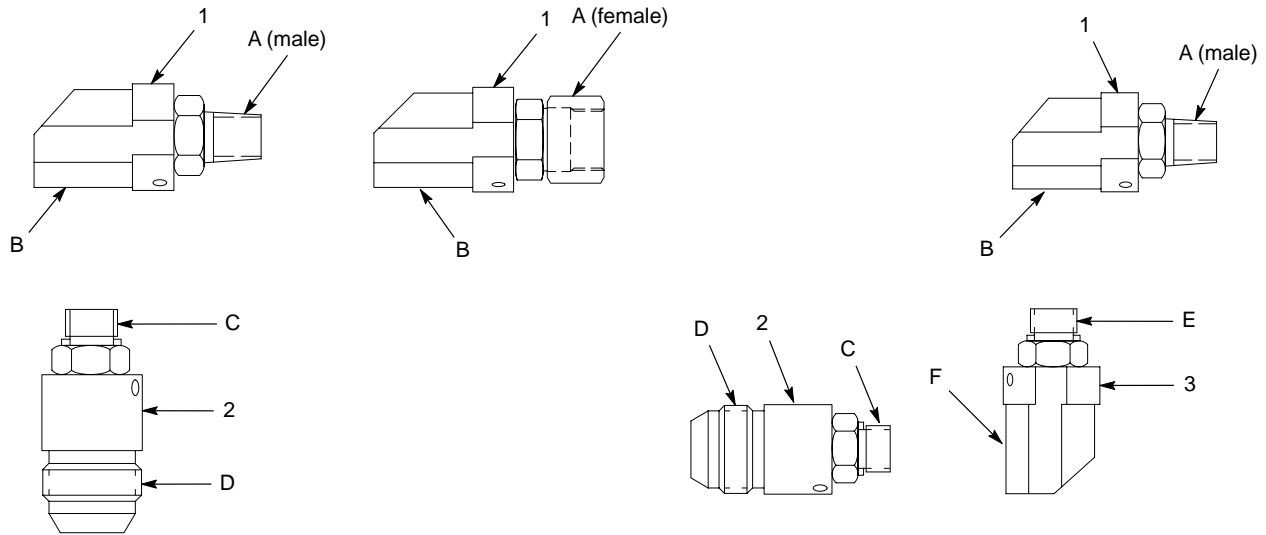

Figure 1 Small Swivels—Typical Combinations
1. See Figure 1 and refer to Table 2. Choose one elbow swivel (1) as the basis for your assembly.
2. Add one straight swivel (2) to the elbow to create a two-plane assembly or add an elbow swivel (3) and a straight swivel (2) to create a three-plane assembly.